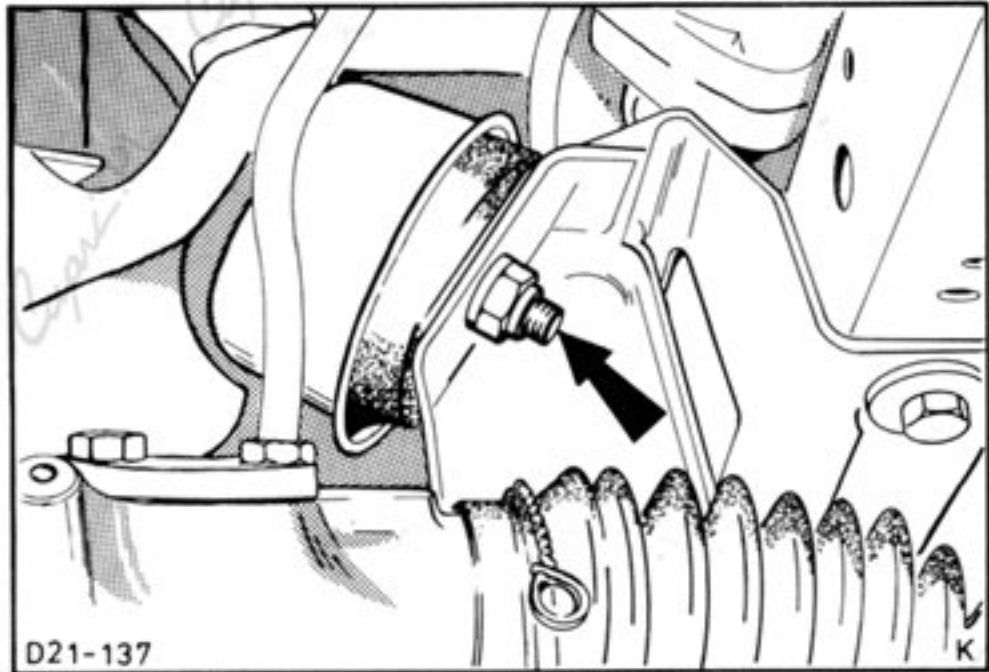

Fig.14. Insulators - Engine mountings.
17. Unbolt the two engine mounting insulators from the crossmember (2 nuts), Fig.14.